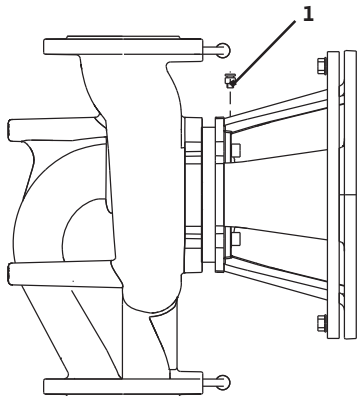

Fig. 40: Air vent valve
- Vent the pumps by loosening the air vent valves (Fig. 40, Item 1). Dry running will destroy the mechanical seal of the pump. The differential pressure sensor must not be vented (risk of destruction).